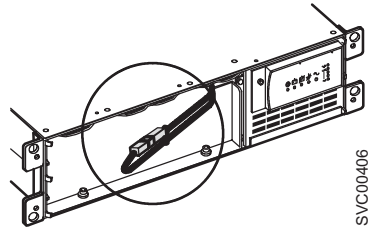

Figure 313. Connecting the 2145 uninterruptible power supply internal battery connectors
- b. Connect the internal battery connector (shown in Figure 313).